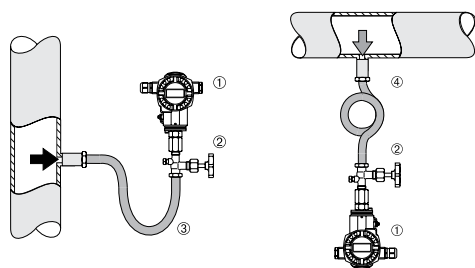

Figure 5: Measuring arrangement for pressure measurement in steams
- Mount Cerabar S with siphon below the tapping point. The siphon reduces the temperature to almost ambient temperature. (see Fig. 5)